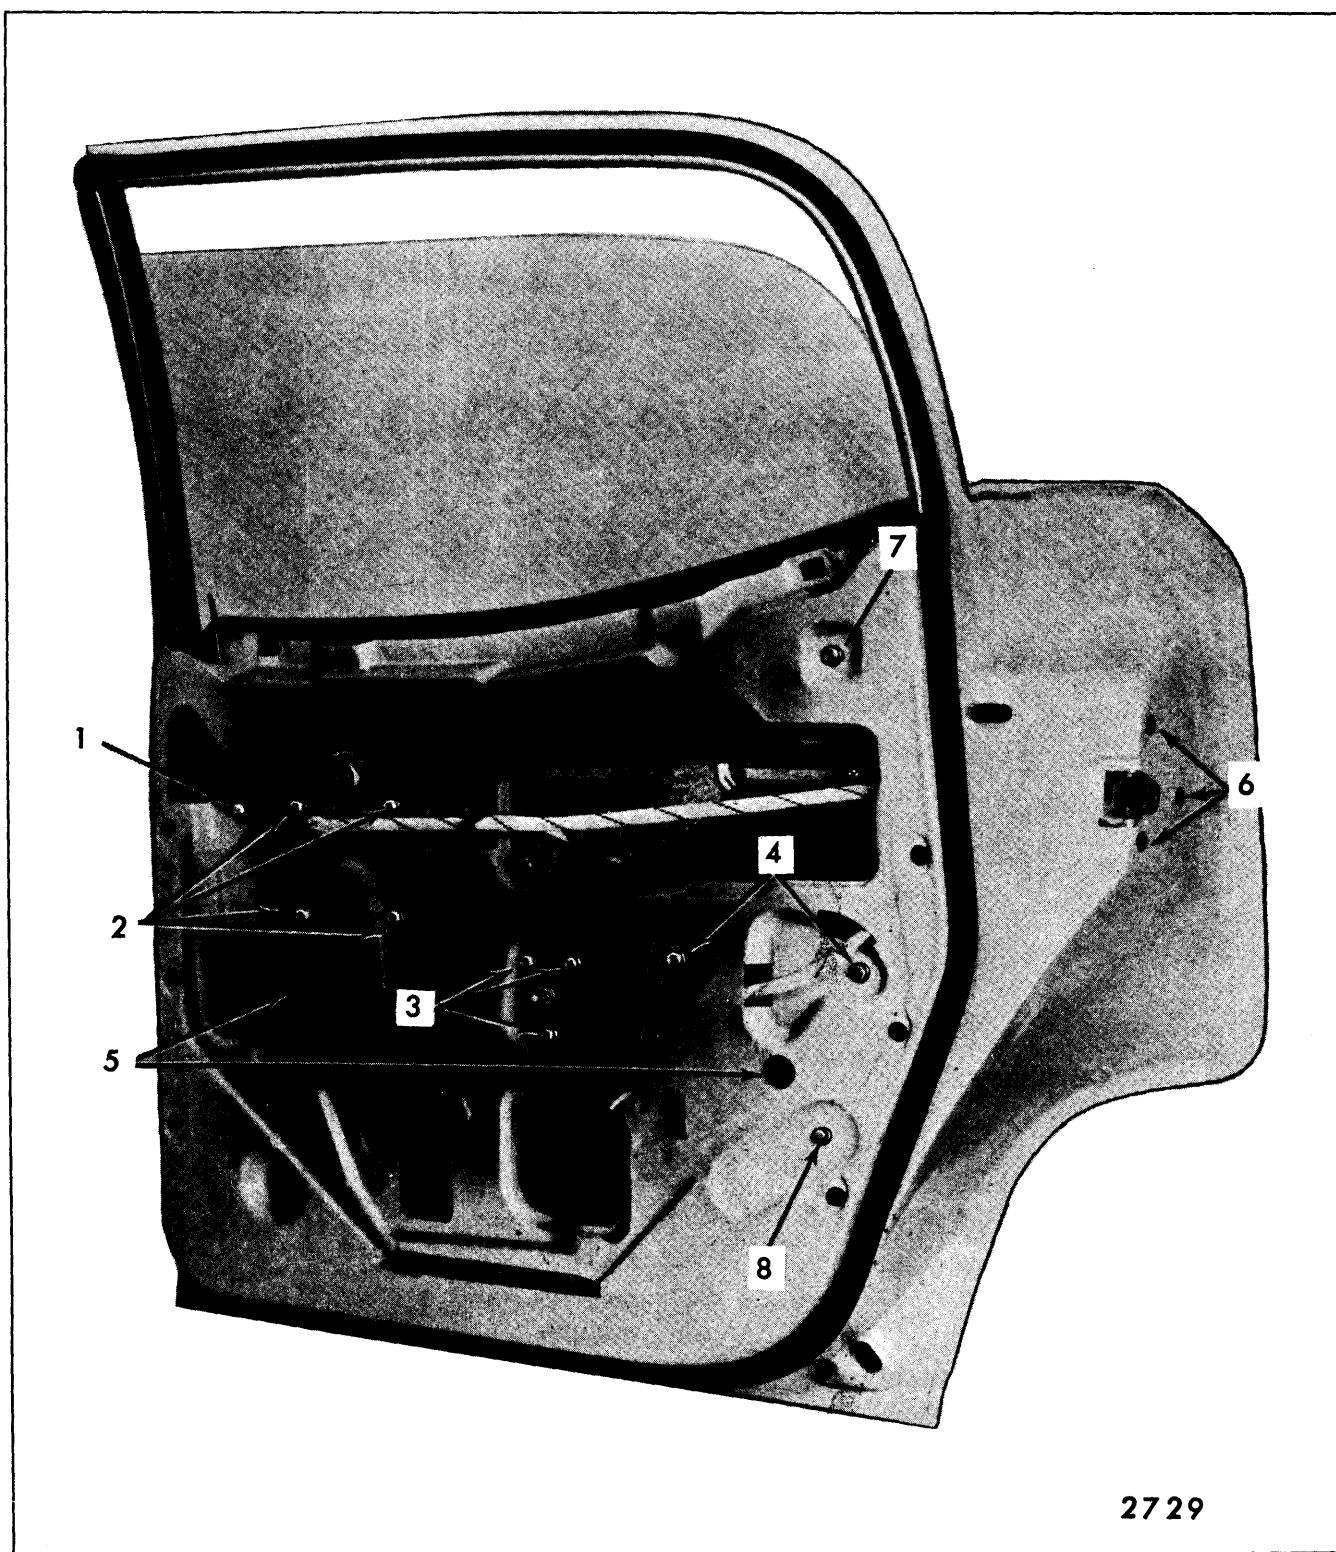

Fig. 6-106—Rear Door Hardware - "A" Closed Styles
There are two basic types of door lock remote controls; the "spindle" type which rotates upward when actuated and the "inward" acting type. Both type remote controls are secured to the door inner panel by three attaching bolts. On some styles it is mounted on the inboard surface of the door inner panel, and on others, on the outboard surface. Figure 6-106 illustrates the spindle type door lock remote control installation. The inward acting type is similar.
2. Remove remote control attaching bolts ("3", Figure 6-106).
4. Remove door lock attaching screws ("6", Figure 6-106) and remove lock from door.